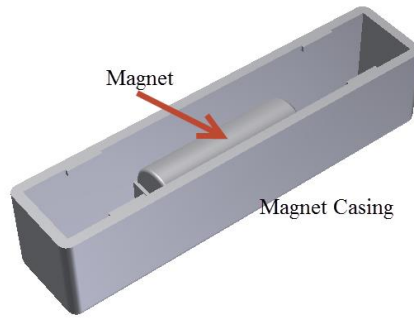

Figure 22
4. Take the magnet and prise open the magnet casing with the screw driver to reveal the magnet as shown in figure 22 and remove the magnet.